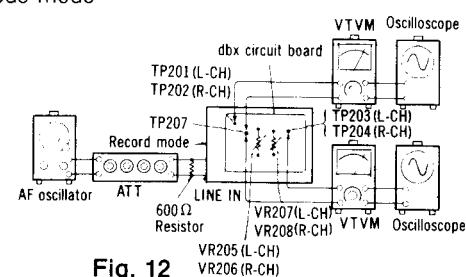

Fig. 12
<p>* Noise reduction selector ... disc/dbx tape</p> <p>Equipment: * VTVM * AF oscillator * ATT * Oscilloscope * Resistor (600Ω)</p>	<p>③-1 Standard level adjustment in dbx Encode mode</p> <ol style="list-style-type: none"> 1. Make the connection as shown in fig. 12 and apply 1kHz – 27dB signal from LINE IN, and set the noise reduction selector to dbx tape position. 2. Set unit to record mode, adjust ATT so that the signal level at TP201 (L-CH) and TP202 (R-CH) is 300mV. 3. Adjust VR205 (L-CH) and VR206 (R-CH) so that the output signal level at TP203 (L-CH) and TP204 (R-CH) becomes $300\text{mV} \pm 0.5\text{dB}$. <p>③-2 Standard level adjustment in dbx Decode mode</p> <ol style="list-style-type: none"> 1. Make the connection as shown in fig. 12 and apply 1kHz – 27dB signal from LINE IN, and perform the following adjustments. 2. Set the noise reduction selector to disc position, and adjust ATT so that the signal level at TP201 (L-CH) and TP202 (R-CH) becomes 300mV. 3. Adjust VR207 (L-CH) and VR208 (R-CH) so that the output signal level at TP203 (L-CH) and TP204 (R-CH) becomes $300\text{mV} \pm 0.5\text{dB}$. <p>NOTES:</p> <ul style="list-style-type: none"> • After adjustments ①, ② and ③, re-check according to "dbx SYSTEM CHECKING METHOD". • If the specifications are not satisfied, perform the adjustments again.